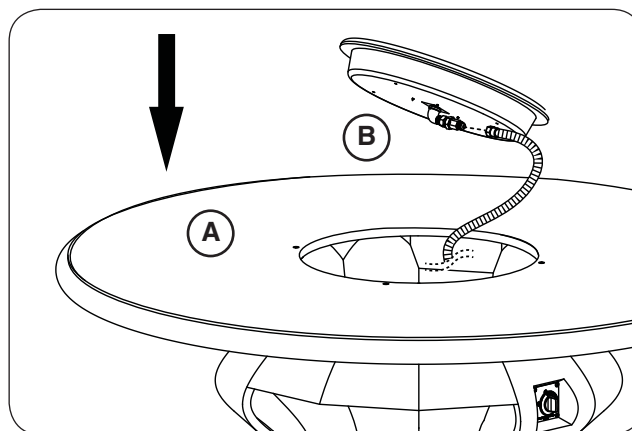

Fig. 19-4 Place burner and connect flex
6. Drop the burner assembly into the opening in the center of the firetable top (see Fig. 19-4, A).
7. Locate the flex connector (marked OUT) that is coming off the valve assembly. Route it to the connection found on the underside of the burner assembly and connect. Tighten securely. See Fig. 19-4, B.